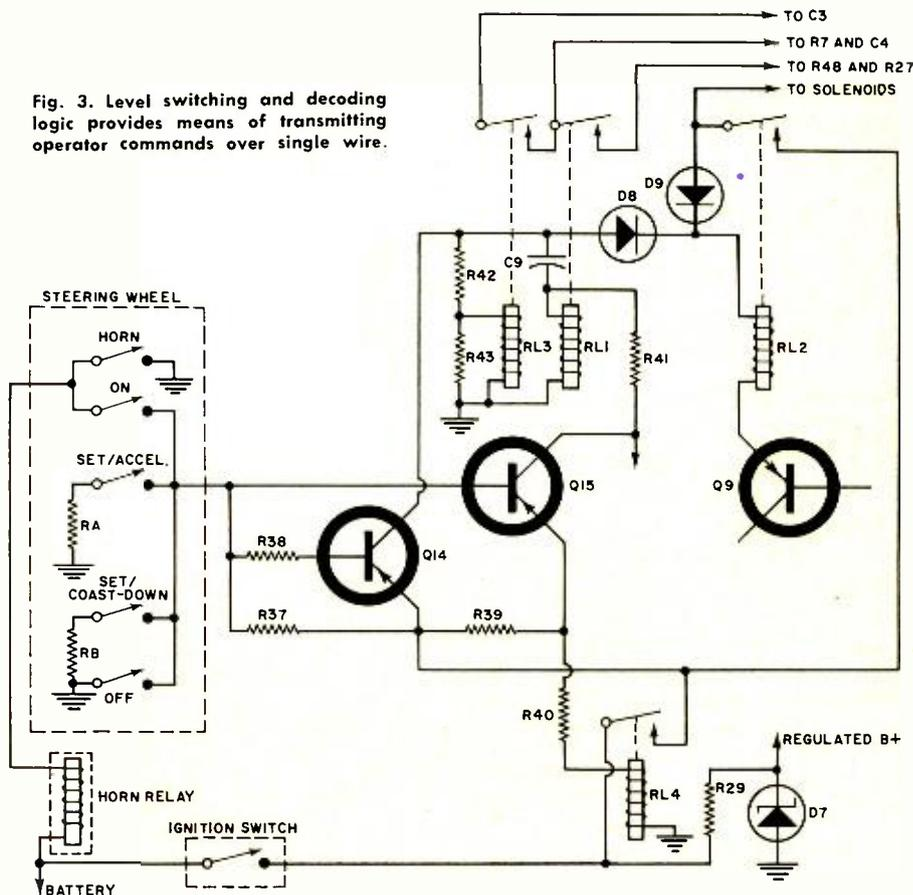

Fig. 3. Level switching and decoding logic provides means of transmitting operator commands over single wire.
Fig. 3 shows the complementary compression-expansion curves of a typical pair in a *Dolby* system. Note that at input levels in the neighborhood of 0 dB there is little compression or expansion action. As the input level is reduced the compressor section tends toward an increased gain of
Fig. 3. *Dolby* complementary compression-expansion action. During recording (A) compression occurs; during playback (B) expansion takes place. The total net effect on the program material is unity gain at all signal levels as shown at (C).
When the operator turns on the ignition switch (Fig. 3), battery power is applied to all of the electronic circuits, except the decoding logic and the driver amplifier. To energize these latter circuits, the operator must press the "on" button located on the steering wheel. This action completes the circuit to energize the coil of relay RL4 through the horn relay coil and resistors R37, R39, and R40. The current through this path is sufficient to energize RL4, but will not operate the horn. The contacts on relay RL4 provide current for a holding circuit and apply power to the decoding logic. RL4 remains latched until the ignition switch is turned "off" or the speed-control system "off" button is depressed.
If the operator wishes to have the speed-control system make the vehicle accelerate, he depresses the "Set/Accelerate" switch and holds it down until the vehicle reaches the desired speed. In this mode, the vehicle accelerates at a rate of about two feet per second per second. Once the desired speed is reached, the operator releases the "Set/Accelerate" switch and enters the new speed into the memory. While the "Set/Accelerate" switch is held down, Q14 remains saturated and RL3 remains closed. RL1 momentarily closes and then opens when C9 (Fig. 3) is charged.
A fail-safe circuit (Fig. 9) is provided as a back up to the normal brake-disable circuit in the event the brake switch fails to close when brakes are applied. An error signal from the comparator cuts off Q5 and Q10. This unlatches RL2 (Fig. 3) and deactivates the system. ▲
When the "Set/Coast-Down" switch is depressed and held down, transistors Q14 and Q15 (shown in Fig. 3) are turned on and relays RL1 and RL3 are energized, a positive signal from the collector of Q15 is applied to the base of Q8 through R36. Transistor Q8 saturates, turning off transistors Q11, Q12, and Q13. The vacuum valve closes and the vent valve opens, releasing the throttle so that the vehicle slows down. When the "Set/Coast-Down" switch is released, RL1 again closes (momentarily) and sets the new vehicle speed into the memory capacitor C3 (shown in Fig. 5). The system begins to operate at the new speed.